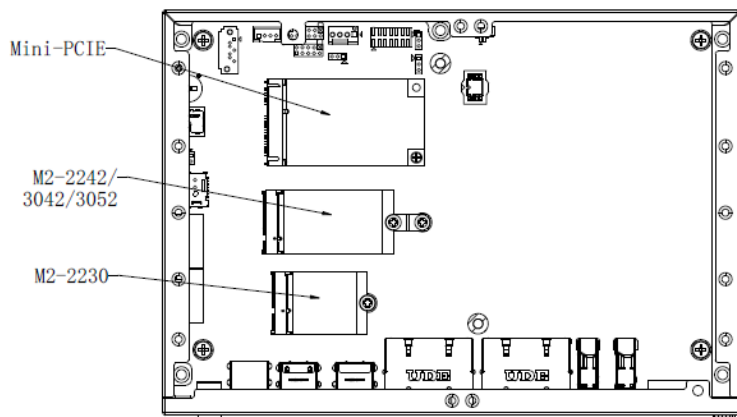

Figure 3.2-2 Install and Remove key parts
2. Remove the Mini-PCle module: Remove 1 flat-head M2x3 screw and remove the M2-2230 Wi-Fi module, as shown in Figure 3.2-2.